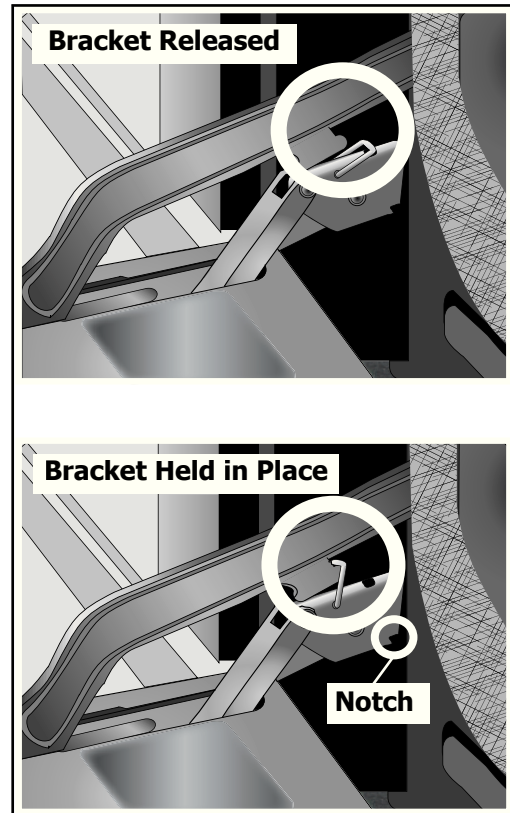

Figure 22: Door Hinge
3. Close door slightly and lift hinge brackets (one on each side) into slots (see Figure 22).
2. Verify that notches drop into place. DO NOT insert beyond notches (see Figure 22).
3. Open door completely so that hinge brackets (one on each side) release (see Figure 22).